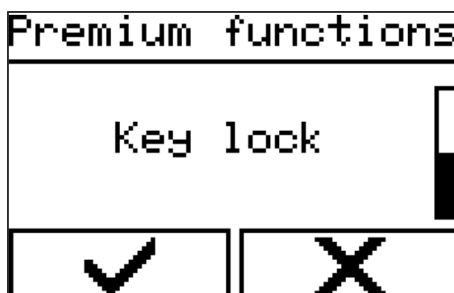

Fig. 49: Selecting a menu
- ➔ Select the menu via 'Hand switch' → 'Premium functions' → 'Button lock' (Fig. 49).